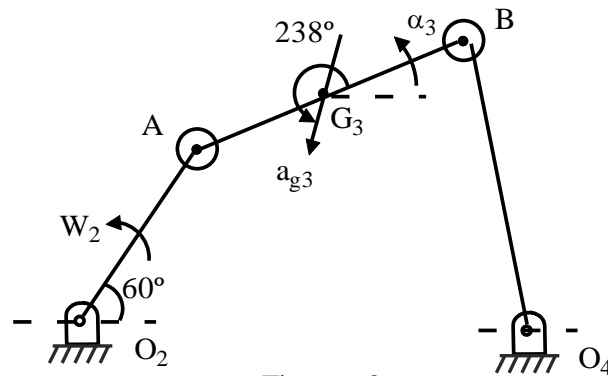

Figure : 3
3. For the figure 3 determine the drive torque required to be applied on crank O_2A to **14**
Acceleration of G_3 as shown in figure 3 and angular acceleration $\alpha_3 = 34.1 \text{ rad/s}^2$ (ccw) .